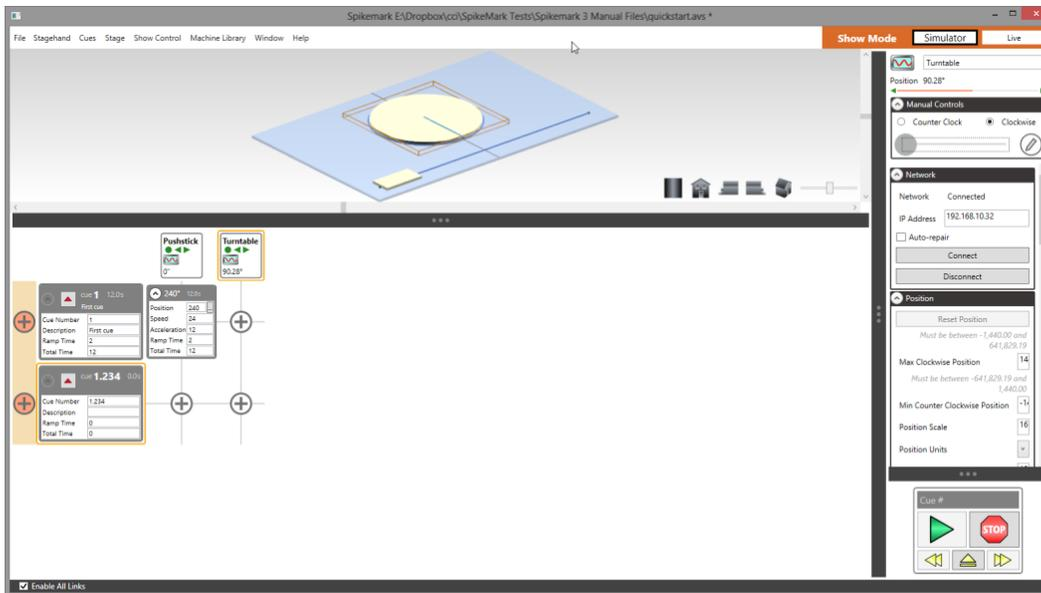

Figure 43
8. When the *Turntable* is pointed downstage with a **Position** of roughly 90 degrees, lower the speed slider back down and release it to stop the *Turntable* (Figure 43).